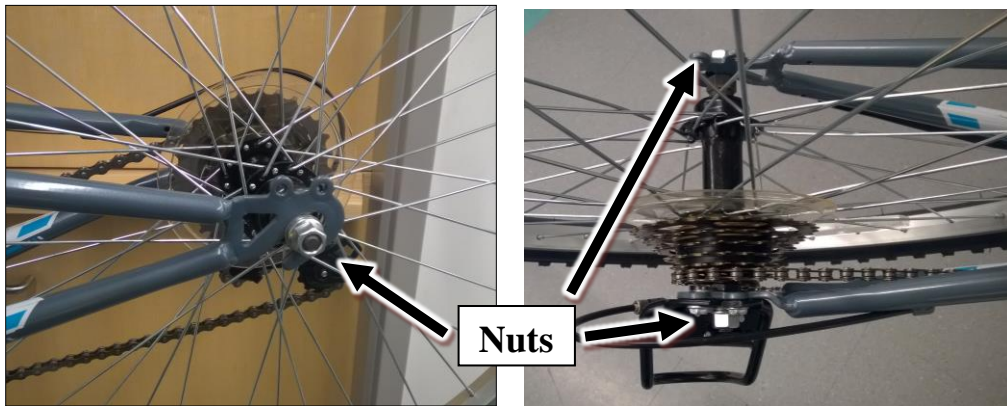

Figure 2: Rear wheel nut
6. Disassemble the wheels (**Figure 2**). You must unscrew two nuts on each wheel. Leave a couple of threads engaged so the nut does not get lost. For the back wheel, you will need to carefully remove the chain from the engaged sprocket. You should not need to take the chain off.